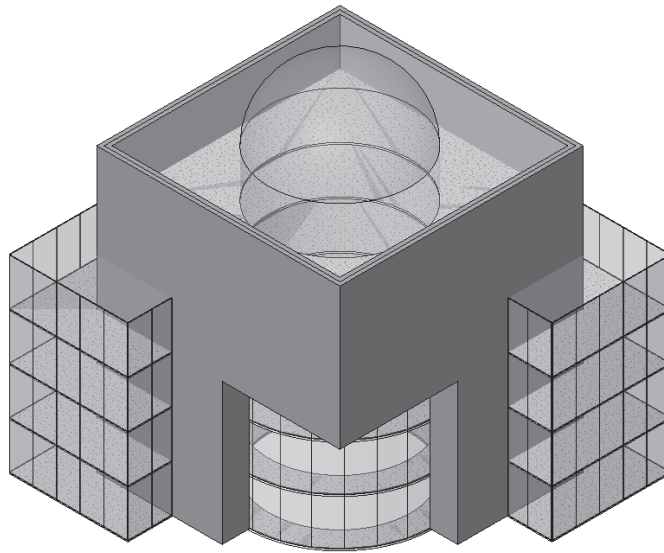

Figure 9-52 Converting massing into walls
18. Similarly, convert the curved entrance wall into the exterior glazing wall type. The 3D view will now appear similar to the illustration shown in Figure 9-52.